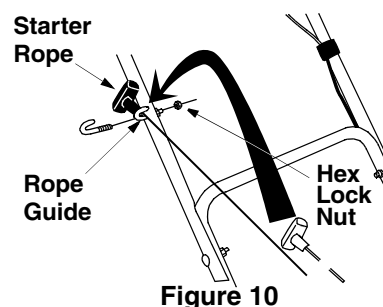

Figure 10
3. Place the rope guide around the starter handle, so the opening in the rope guide is toward the front of the mower. Insert the rope guide into the right side of the handle, and secure with hex locknut. See Figure 10.